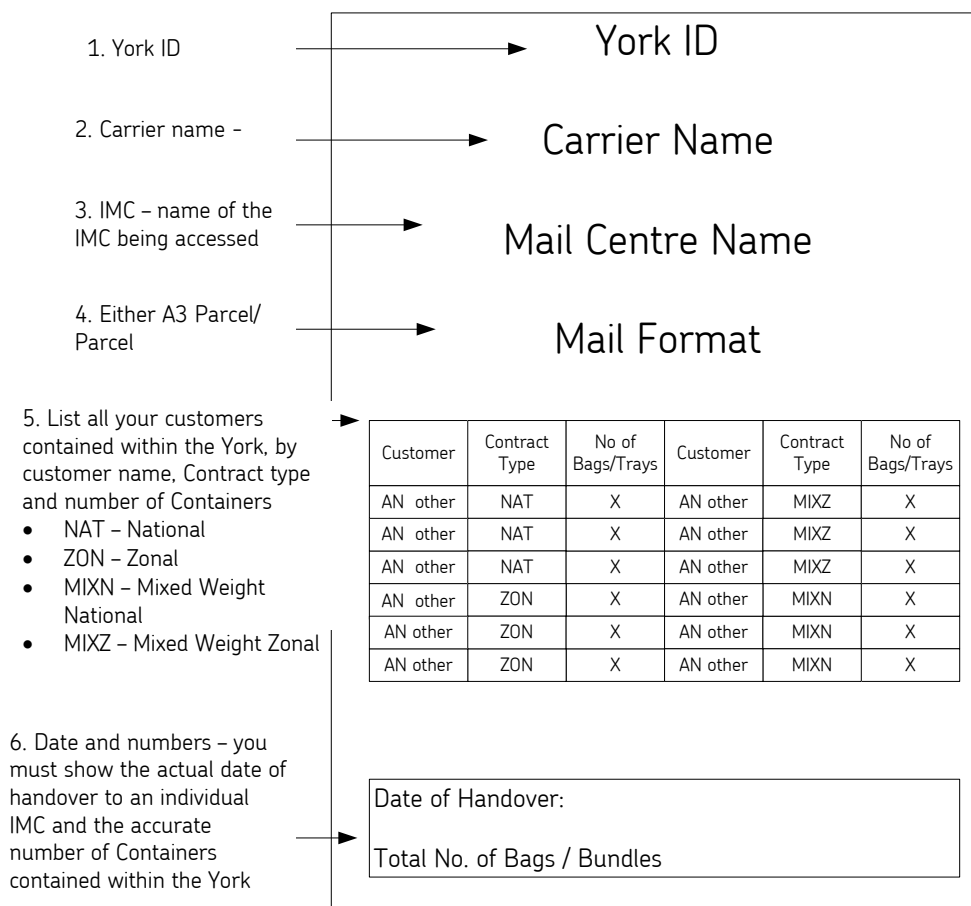

Figure 29: Mixed Weight York label
- 3.3 If your Mailing Items arrive in York Containers, there is also a requirement to include 'Mixed Weight' on the York cards (see Figure 29).